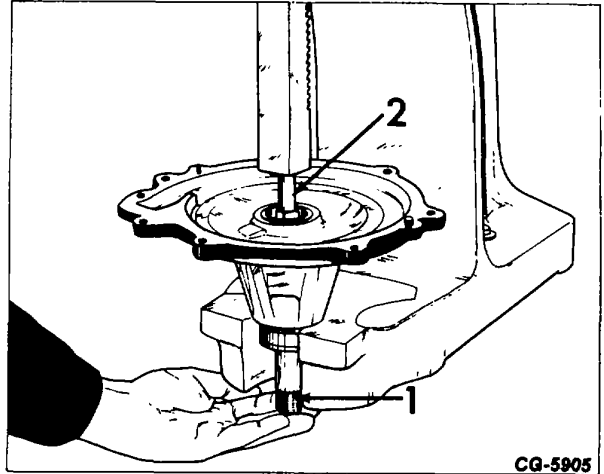

Figure 21. - Press Out Shaft and Bearings
6. Press out the shaft from the rear of the housing, as shown in Fig. 21. The bearings and spacers will come out with the shaft (1, Fig. 21). Press bearings from shaft.